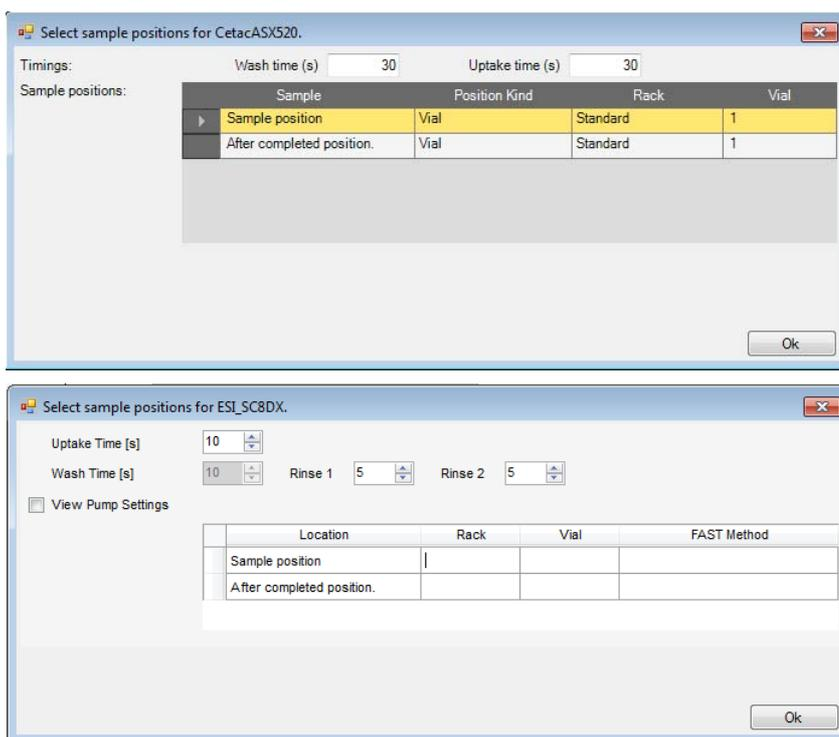

Figure 7-18. Select sample positions for autosampler dialog; top: CETAC ASX; bottom: ESI SC
1. If an Autosampler, for example, *CetacASX520* or *ESI SC8DX* is selected, **Select Sample Position** is shown. When this button is clicked, a dialog opens where it is possible to specify timings and sample positions, see Figure 7-18.